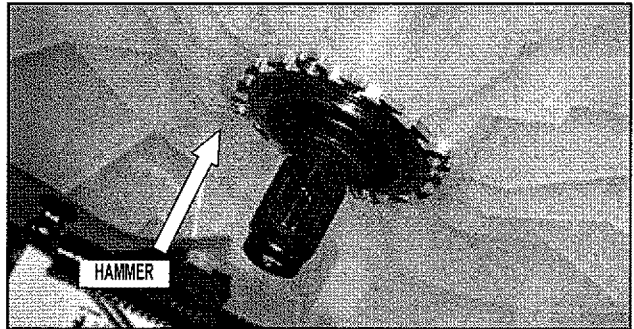

FIGURE 7
11. Remove drive shaft and seal (with hammer). See Figure 7.